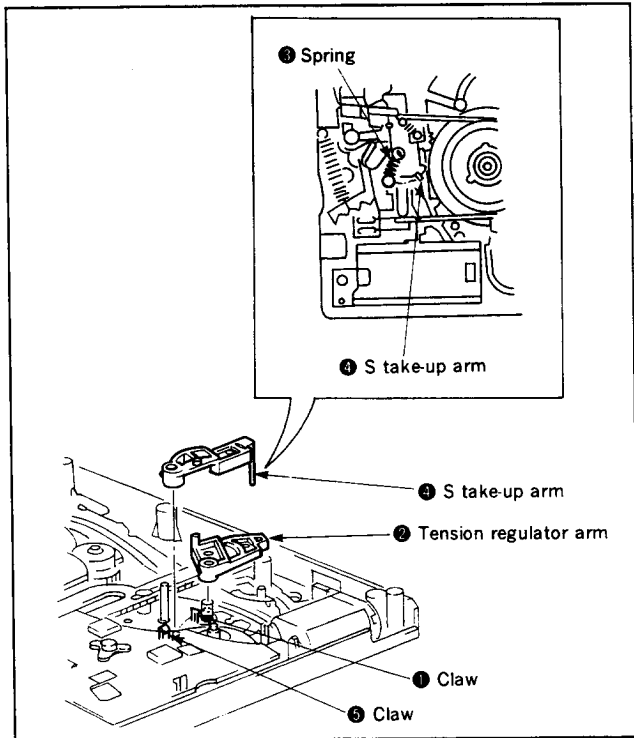

Fig. 3-37.
**3-31. TENSION REGULATOR ARM, S TAKE-UP ARM (Fig. 3-37)**
- 2) Disengage the claw ①, then remove the tension regulator arm ②.
- 3) Remove the end of the spring ③ from the S take-up arm ④.
- 4) Disengage the claw ⑤, then pull out S take-up arm ④.